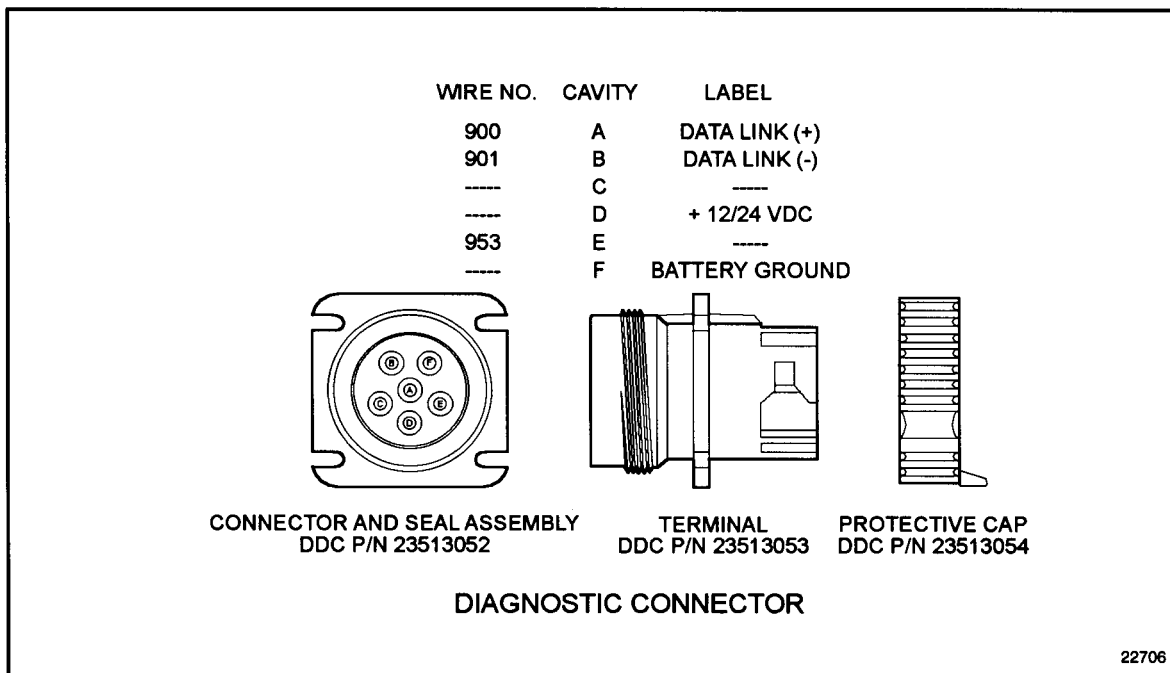

Figure 10-10 Diagnostic Connector
3. Turn ignition ON, and again measure resistance between sockets C1 and C2. See Figure 10-10.